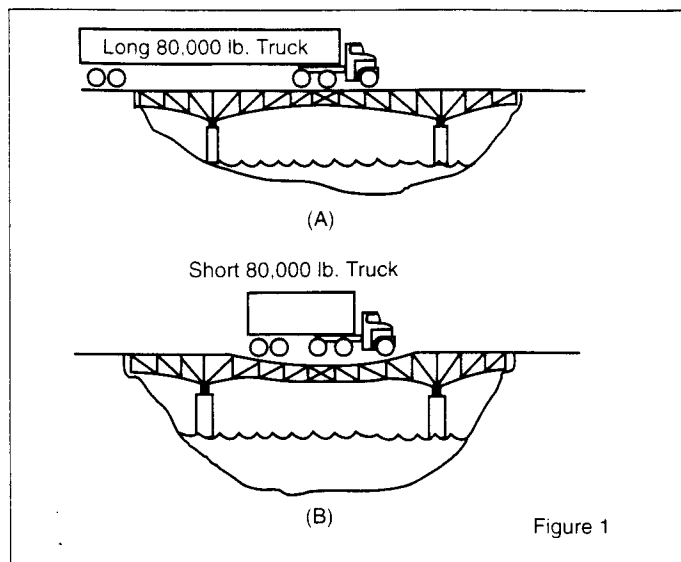

Figure 1
In Figure 1(A), the stress on bridge members as the longer truck rolls across is much less than that caused by the short vehicle in Figure 1 (B), even though both trucks have the same total weight and individual axle weights. The weight of the longer vehicle is spread out, while the shorter vehicle has all of the weight concentrated on a small area.